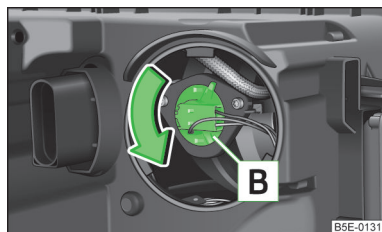

Fig. 215
- Turn the bulb holder **[B]** » Fig. 215 **anti-clockwise** up to the stop and remove.